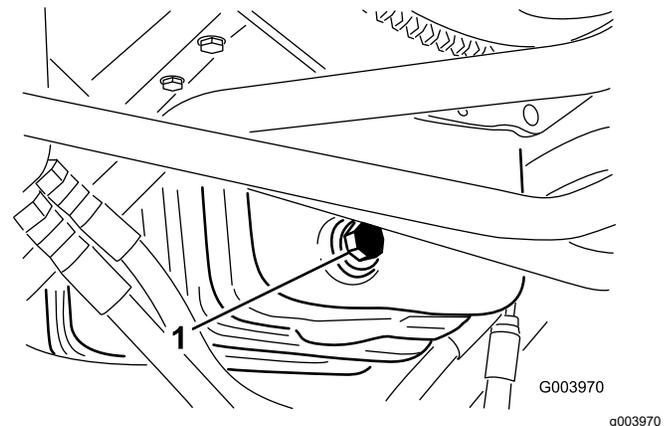

Figure 78
1. Remove the drain plug (Figure 78) and let the oil flow into a drain pan.